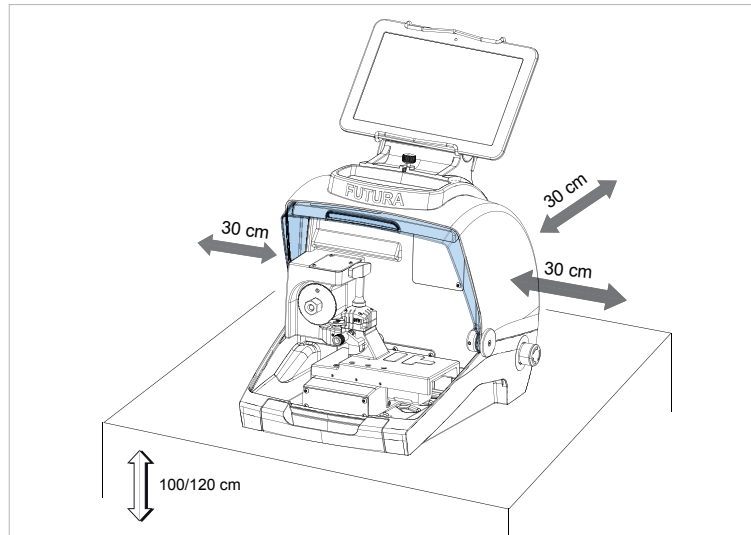

Fig. 9
- 1) Place the key-cutting machine on a solid horizontal work bench suitable for the weight of the machine (16 Kg). The work bench should be approximately 100-120 cm high to facilitate access to the working parts. We recommend leaving at least 30 cm clearance behind and around the machine to ensure good ventilation and facilitate handling (Fig. 9).